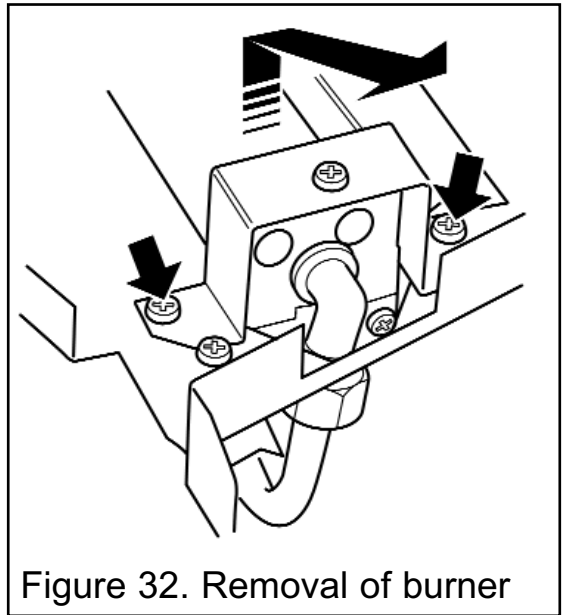

Figure 32. Removal of burner
(See figure 32).
3. Remove the two screws from the burner clamping plate (See figure 32).